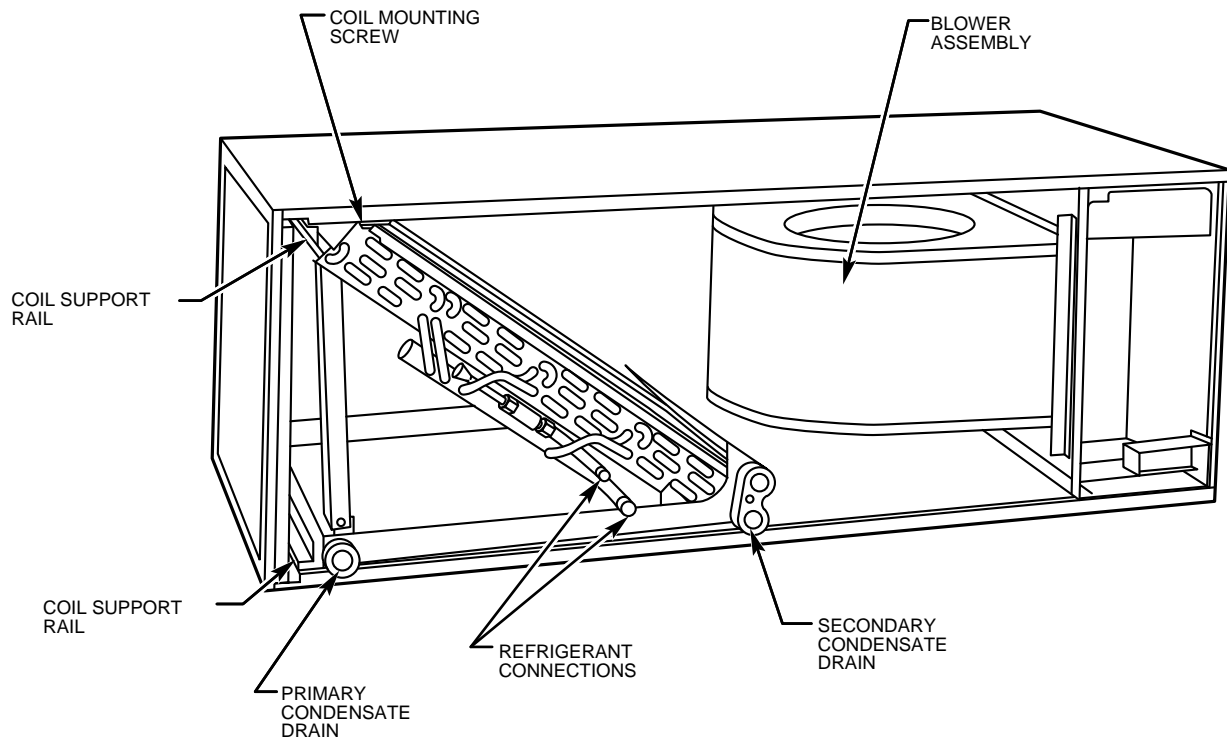

Fig. 4—Conversion for Horizontal Right Applications Using a Slope Coil
1. Remove blower and coil access panels and fitting panel. (See Fig. 4.)
4. Lay fan coil unit on its right side and reinstall coil assembly with condensate pan down. (See Fig. 4.)